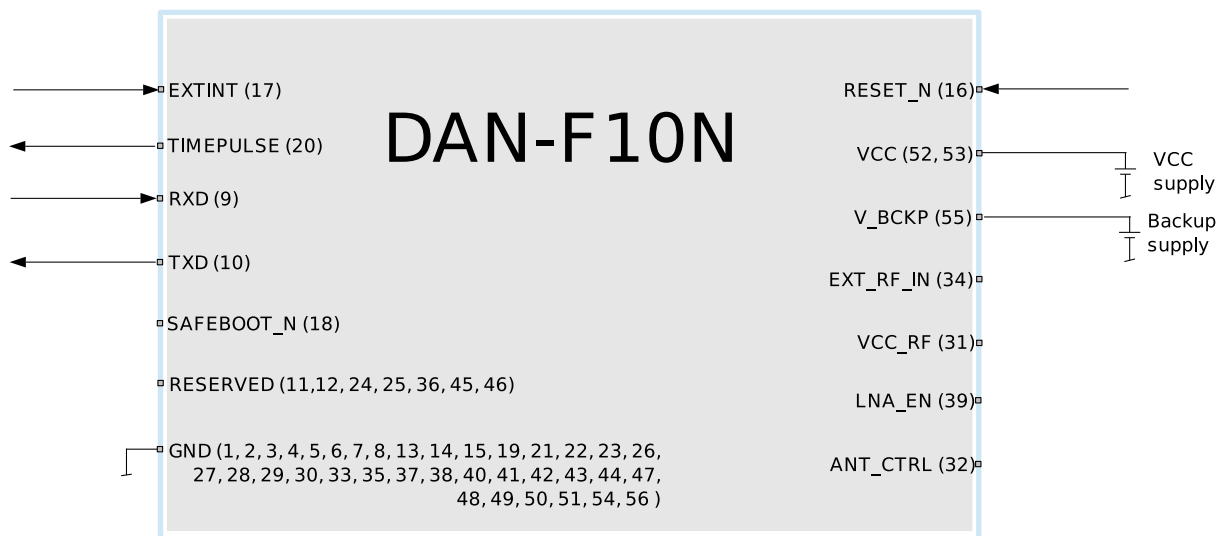

Figure 22: Typical design
- ANT_CTRL is used to select between the onboard patch antenna or an external antenna. Leave the ANT_CTRL open to select the internal antenna by default as shown in Figure 22.